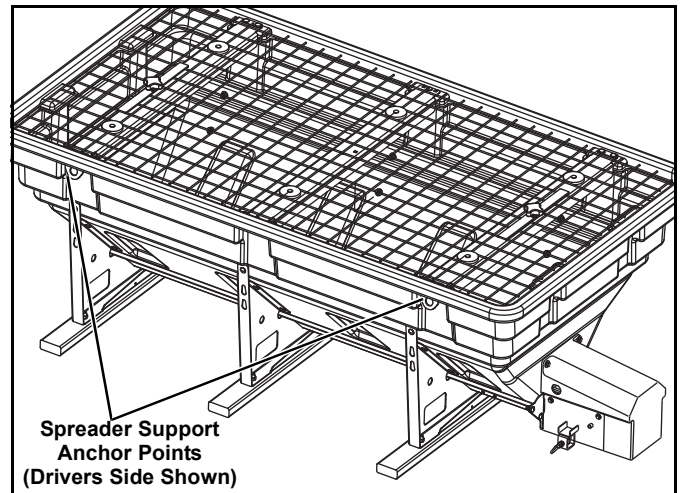

Figure 1-11
2. Using suitable tie-down straps or chain, secure the spreader to the vehicles factory installed anchor points using two tie-down brackets on each side of the spreader hopper (See Figure 1-11).